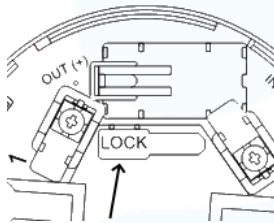

Fig.3
- Remove the key from the base beforehand (Fig. 3).